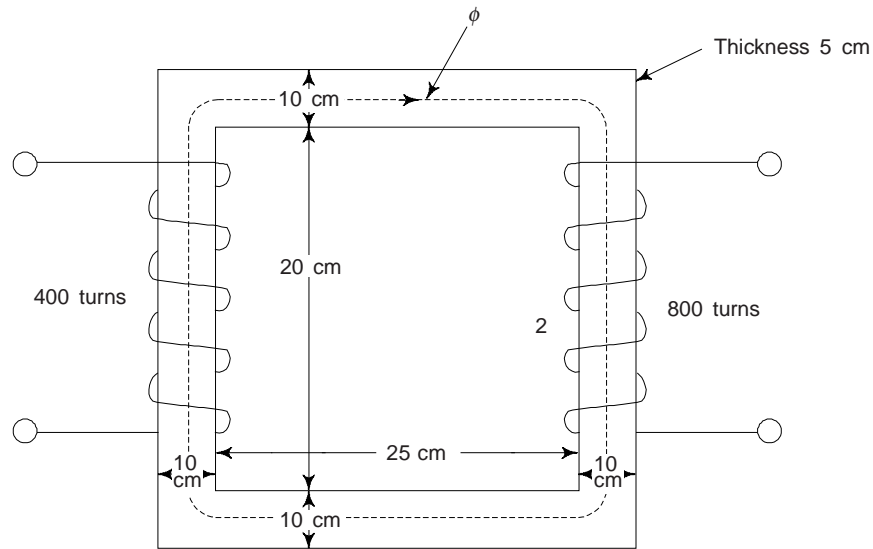

Fig. P2.15
- 2.15 The material of the core of Fig. P2.15 wound with two coils as shown, is sheet steel (*B-H* curve of Fig. 2.15). Coil 2 carries a current of 2 A in the direction shown. What current (with direction) should coil 1 carry to establish a flux density of 1.4 T in the core in the indicated direction?